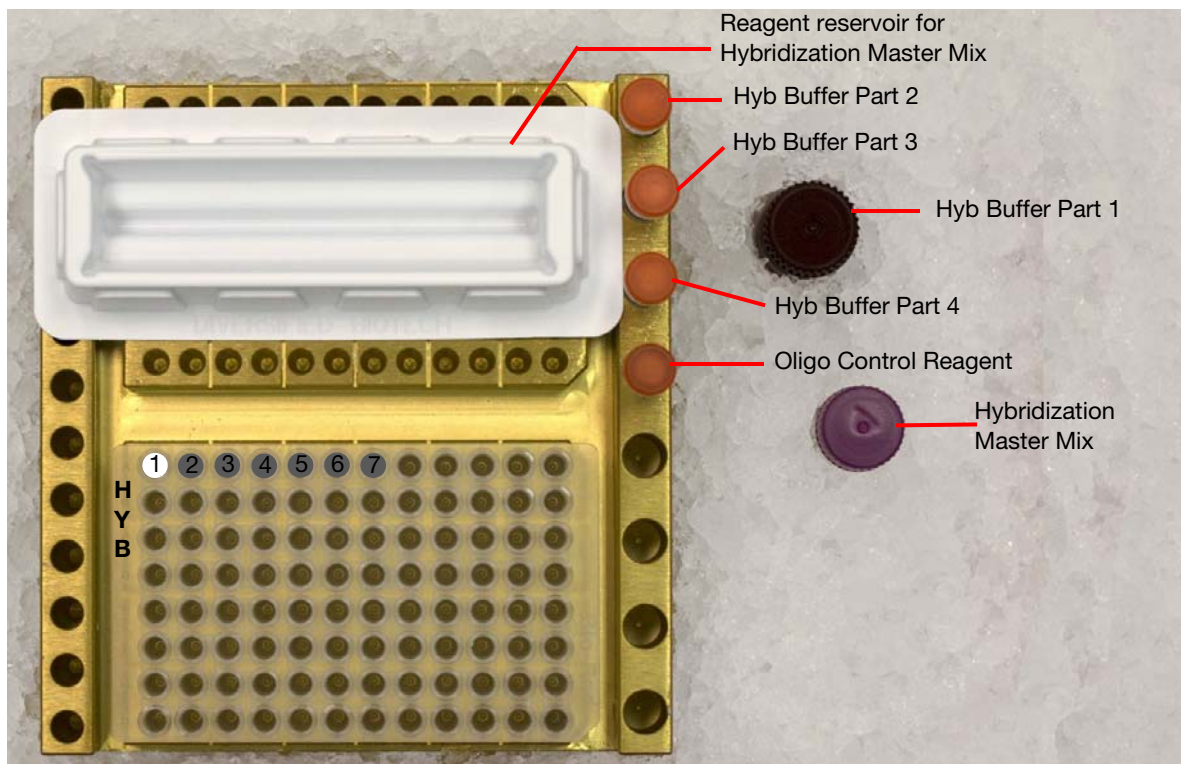

Figure 19 Hybridization setup
1. Place a double cooling block on ice (Figure 19 on page 45).
2. Pulse spin for 3 seconds, then place in the cooling block as shown in Figure 19.